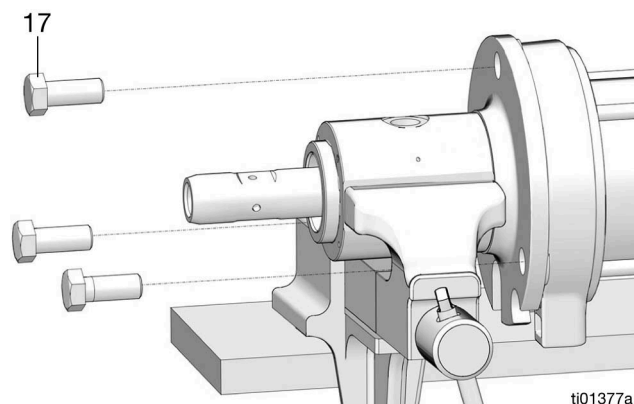

FIG. 22
- Replace and hand-tighten the outlet housing adapter screws (17) (FIG. 22).